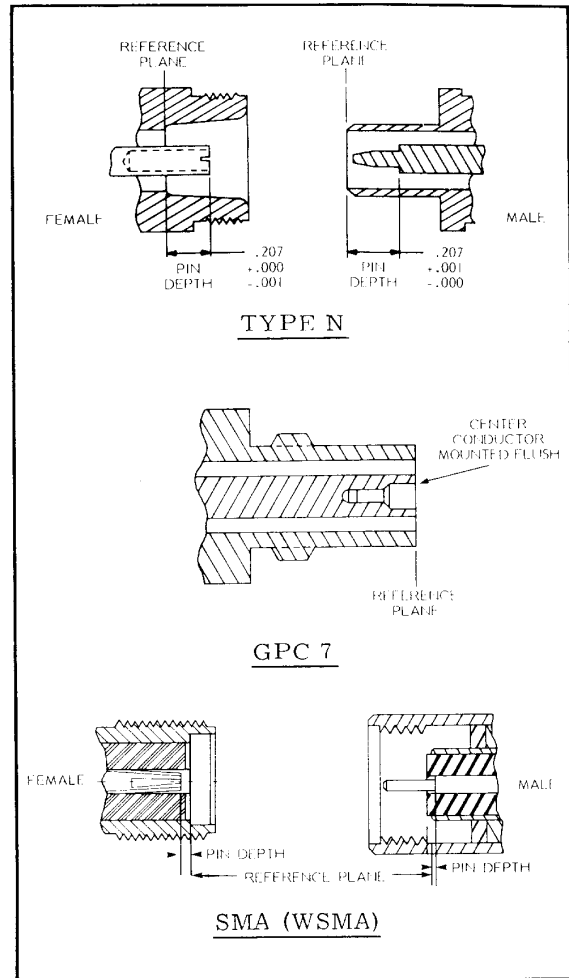

Figure 1-6. Connector Pin Depth
- a. Beware of Destructive Pin depths on Mating Connectors.\* Measure the pin depth (Figure 1-6) of the test device connector before mating it with the detector or SWR Autotester test port connector. When any detector or SWR Autotester connector is mated with a connector having a destructive pin depth, the detector or SWR Autotester connector will probably be damaged. (A destructive pin depth has a center pin that is too long in respect to the connector's reference plane.)